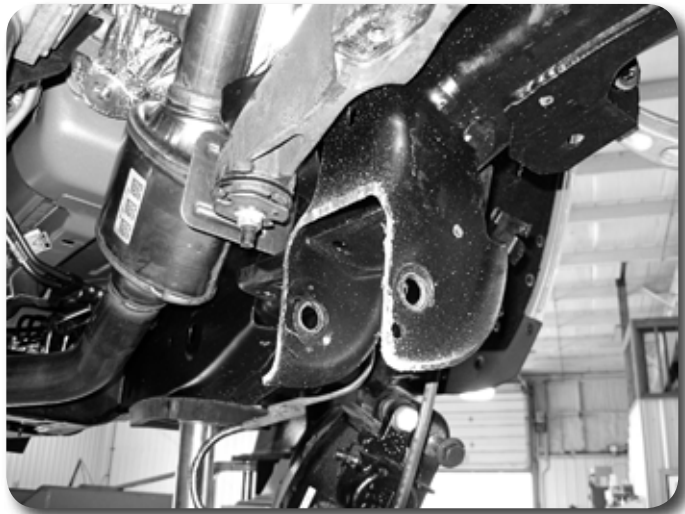

Figure 15
25. With the vertical cuts complete, cut the top portion of the pocket by connecting the two cuts Figure 15.